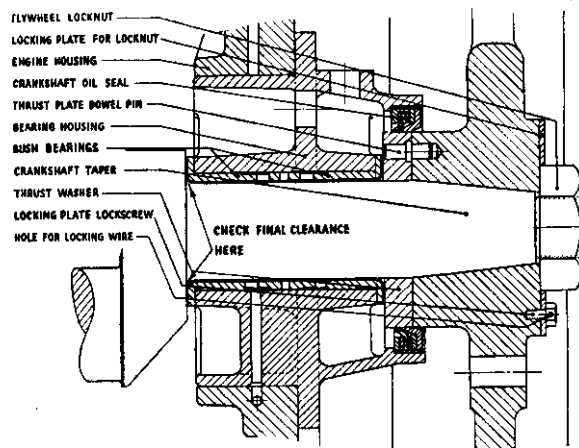

Fig. 9
- vi. Give a sharp blow to the locknut end of the shaft with lead hammer, or equal and check clearance finally between crank web and bearing as indicated in Fig. 9 which shows clearly in cross-section the FINAL ASSEMBLY.